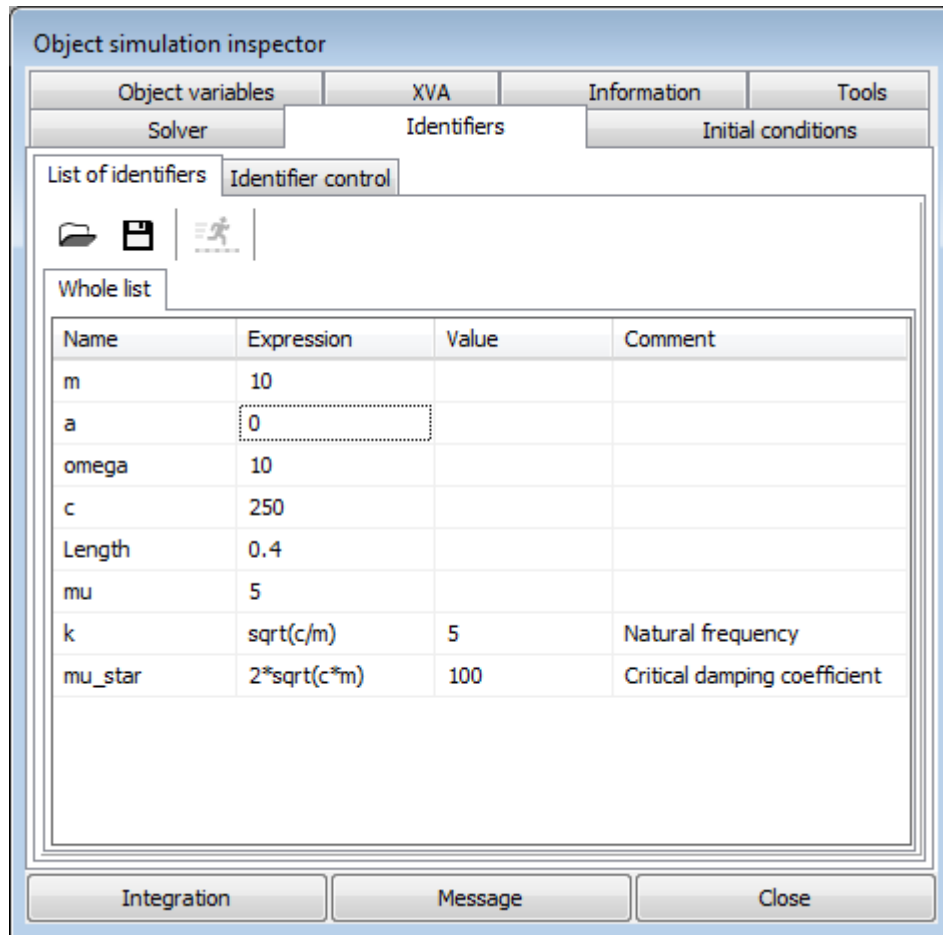

Figure 2.19. Parameters of the model
8. Set **a** to **0** and press **Enter**, see in Figure 2.19. So we set zero amplitude of the oscillations of the **Top** body, in other words we fix the **Top** body in order to analyze free oscillations.